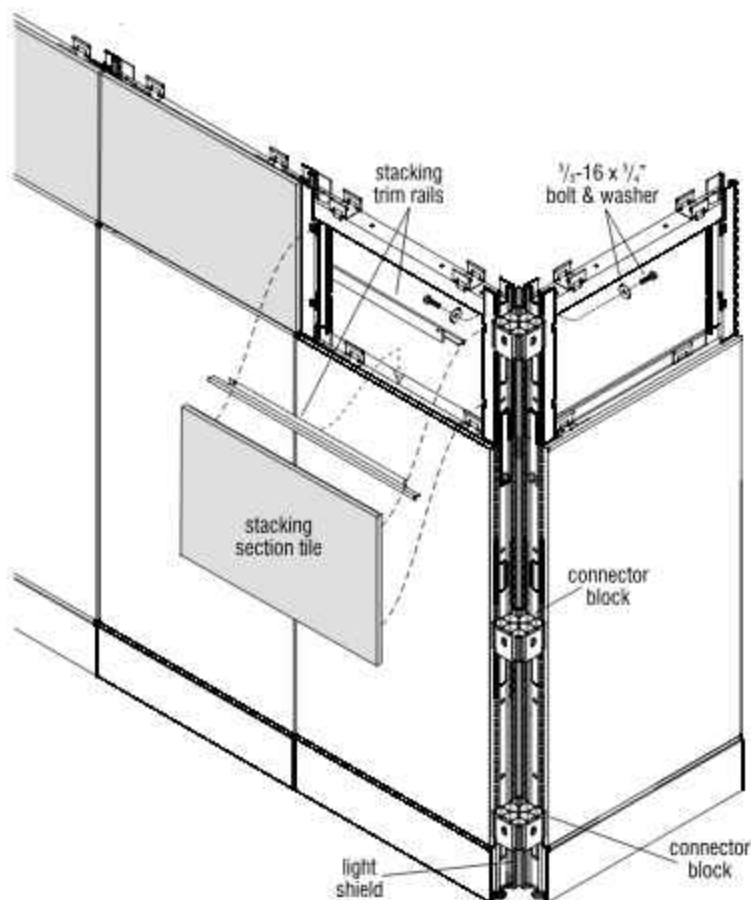

Figure 12 - Stacking Frames with Fabric, Markerboard or Slat Wall Tiles (steel frame) - Tile Assembly
1. Stacking trim rails must fit between the top of the lower panel tile and the stacking section tile bottom. Install two trim rails; one on each side of the panel. Ensure the large flange is oriented toward the center of the panel (Figure 12).
2. If the stacking section tile is fabric, hold the tile up, then center and nest the bottom of the tile into the bottom of the stacking trim rail. Push the top of the tile against the frame and lift such that the tabs of the stiffeners enter the P-slots. Push in and gently allow tile to nest down into the bottom trim channel (Figure 12).
3. If the stacking section tile is markerboard or slat wall, hold the tile up, then center and nest the bottom of the tile into the bottom of the stacking trim rail. Push the top of the tile against the frame. Magnets will hold the tile against the frame (Figure 12).
4. Ensure each tile is installed securely and even onto the lower panels. Alignment along the top of adjacent stacking section tiles must be even for trim to fit properly (Figure 12).
5. Hang the full-height vertical corner trim onto the three connector blocks at the intersection (Figure 12).